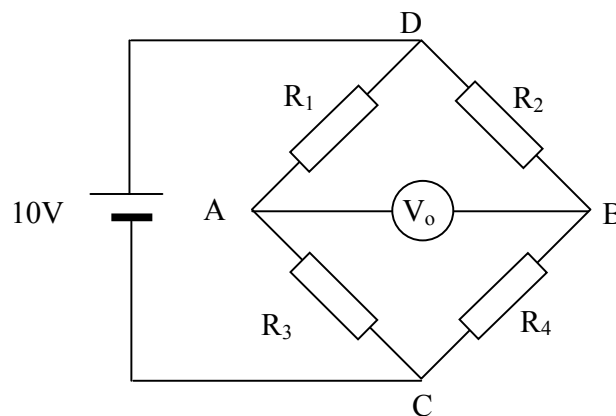

Figure 5.4 A DC Wheatstone bridge
5.4 If the Wheatstone bridge, as shown in **Fig. 5.4**, nulls with $R_1 = 1000\ \Omega$, $R_2 = 842\ \Omega$ and $R_3 = 500\ \Omega$, find the value of R_4 . [$421\ \Omega$]